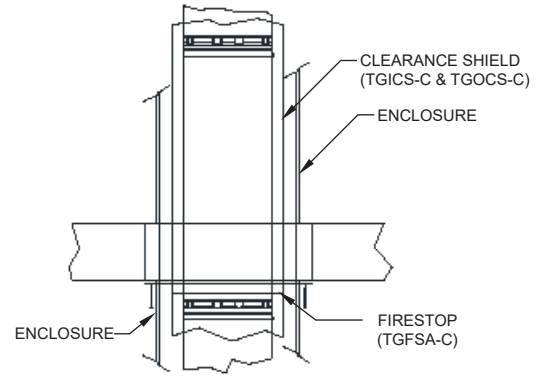
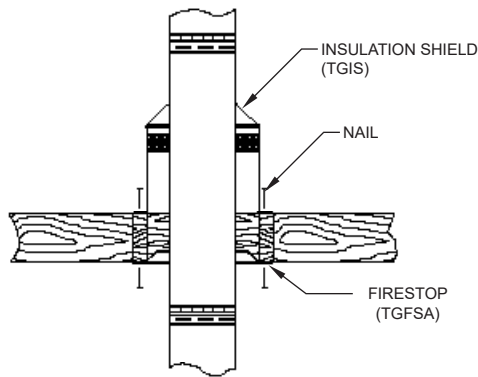

FIG. 6b: CHIMNEY IS ENCLOSED BELOW THE ATTIC AND ENCLOSED IN THE ATTIC
FIG. 6: CHIMNEY IS ENCLOSED BELOW THE ATTIC
8. The first chimney section through the joist area into attic is to be approximately two (2) feet. If the pipe sections in the levels below and in the attic are not enclosed an insulation shield (TGIS) must be installed. The vertical height of the attic insulation shield above attic construction material should accommodate the amount of insulation as required by the national building code. Lower insulation shield (TGIS) over TG pipe until the flange is resting on the joist. Secure the (TGIS) in place by nailing the flange to the joists. (See FIG. 6). If the pipe sections in the levels below the attic are enclosed and the attic is unenclosed an insulation shield (TGIS-C) must be installed. The clearance shields (TGICS-C & TGOCS-C) must extend through the joist area and insulation shield (TGIS-C). The clearance shields (TGICS-C & TGOCS-C) will terminate above the insulation shield (TGIS-C) and a storm collar (TGASC-C) must be used to close the gap between the TG chimney and clearance shields preventing insulation and debris to fall between them (See FIG. 6A and FIG. 6b). If the pipe sections are enclosed through the attic, no insulation shield is required. The clearance shields will need to extend up through the flashing.